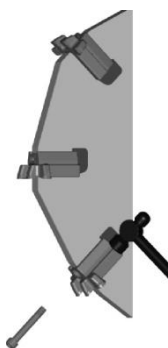

Fig. 15 –Bolt release
1. Remove the bolt and tap behind the blade with a small hammer (fig. 15). Avoid hitting tips. Use safety goggles. The leading blades that are furthest from the centre of the head do most of cutting. By changing these as soon as they become blunt, you can re-use them in other non-leading positions.